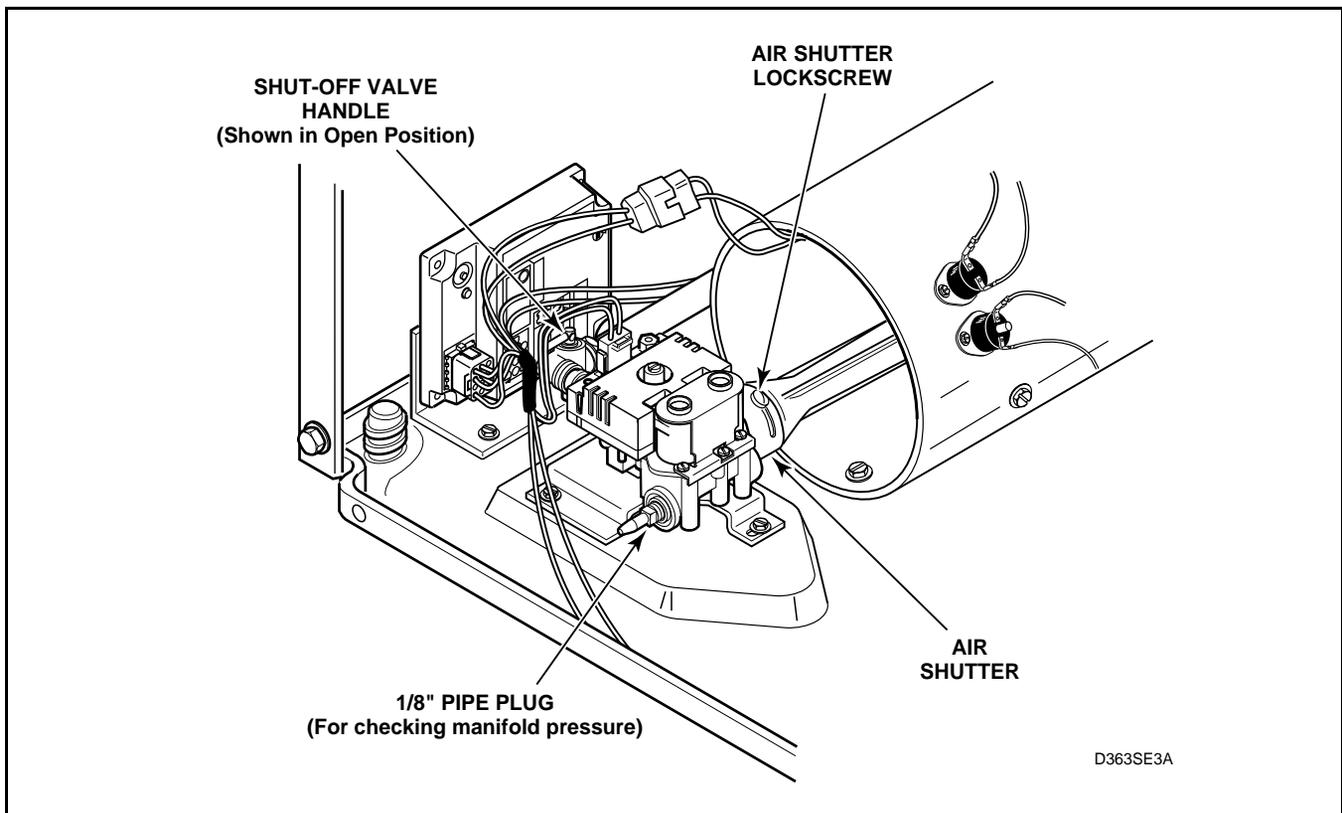

Figure 37
- e. Allow the dryer to operate for approximately five minutes, then loosen the air shutter lock screw. See *Figure 37*.
- g. After proper flame is obtained, tighten air shutter lock screw firmly. See *Figure 37*.